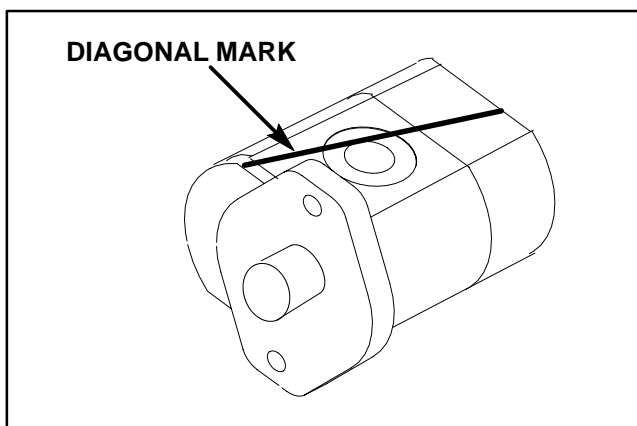

Figure 48
2. Use a marker or scribe to make a **diagonal** mark across the front flange, body, and rear cover for reassembly purposes (Fig. 48).